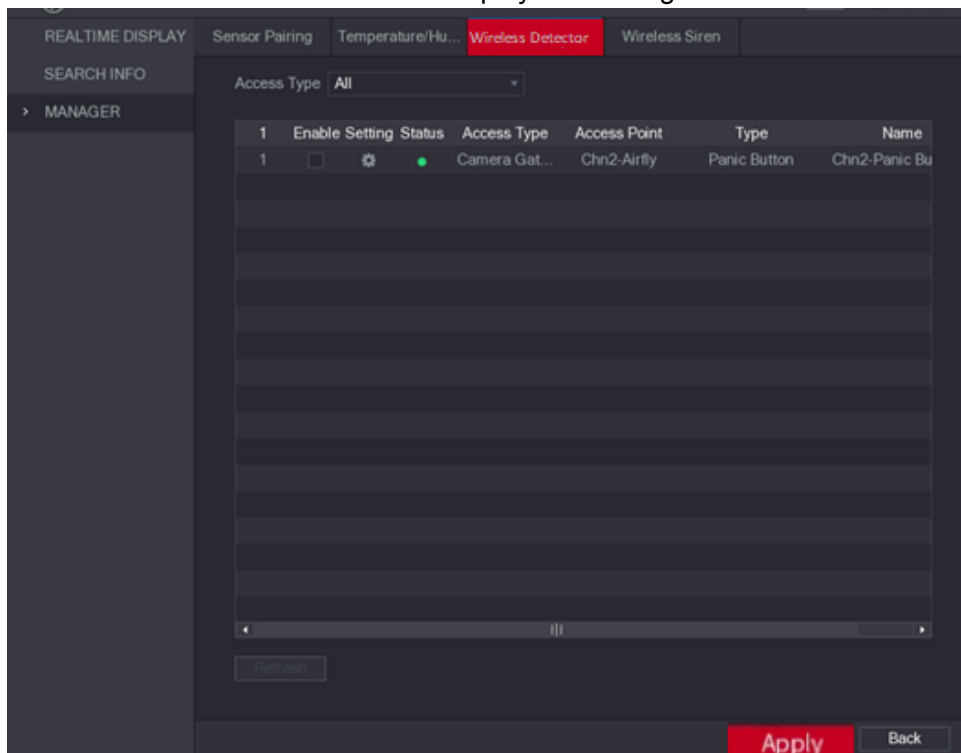

Figure 5-149
**Step 1** Select **Main Menu** → **Intelligent** → **IoT** → **Manager** → **Wireless Detector**. The **Wireless Detector** interface is displayed. See Figure 5-149.